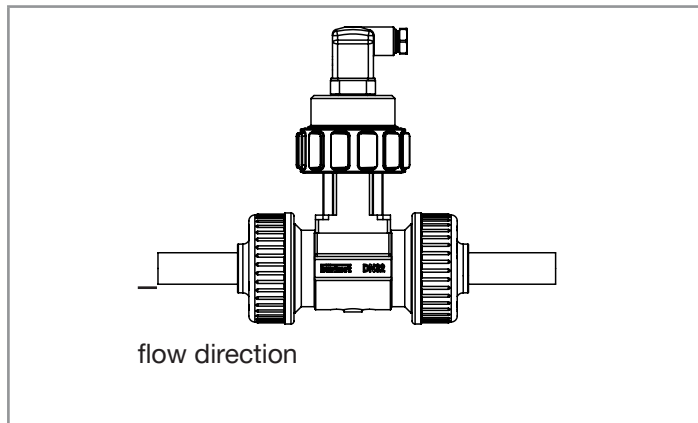
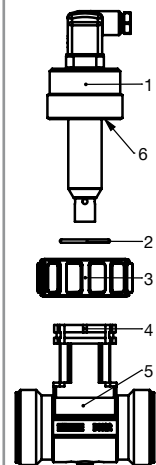

Fig. 3: Mounting position of the fitting-device system in the pipe
Fig. 4: Installation of the 8220 on the S020 fitting
The device can be installed on a pipe using a fitting type S020 (see Fig. 3 and Fig. 4).
- Install the fitting [5] on the pipe acc. to the Operating Instructions of the fitting used and acc. to Fig. 3.